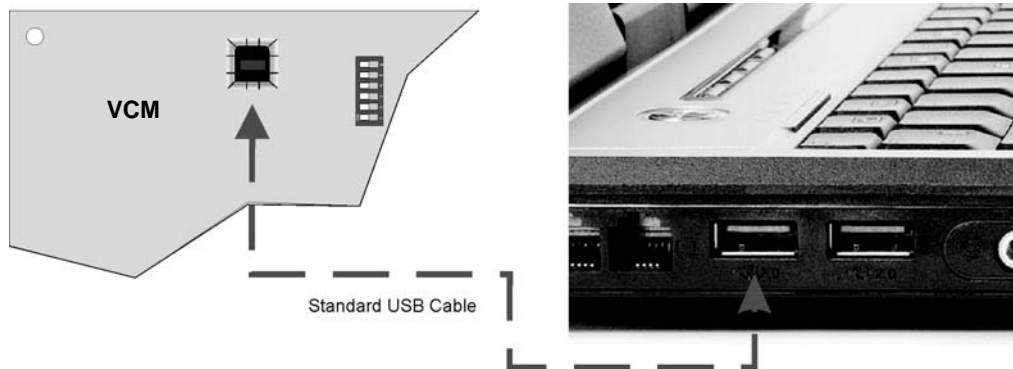

Figure 9-10 USB Cable Connections
2. Connect the PC to the panel using a standard USB cable. See Figure 9-10.